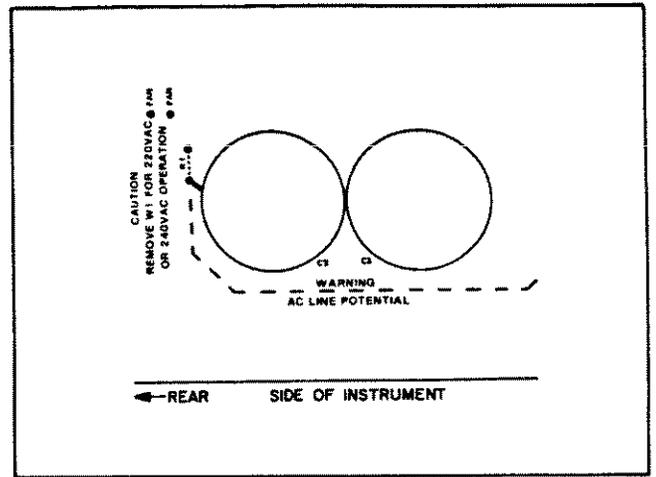

Figure 2-4. Location of Jumper W1
- d. The line voltage jumper W1 is located on main board near center rear (see Figure 2-4). (A dashed line is silkscreened on main board from vicinity of S2 to W1). Jumper must be soldered in place for 120V operation, and *must be removed for 220V or 240V operation.*